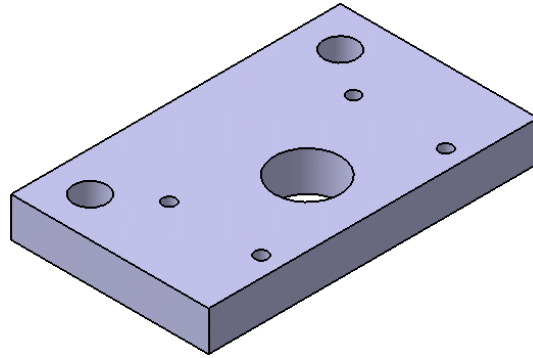

Figure 11-85 The final model of the Bottom Plate
- b. Create a new part inside the assembly. Modify its name and create features of the base component, refer to Figure 11-85. In this assembly the Bottom Plate will be the base component.
2. Create the **Bottom Plate** using the part modeling tools. The final model of the Bottom Plate is shown in Figure 11-85.